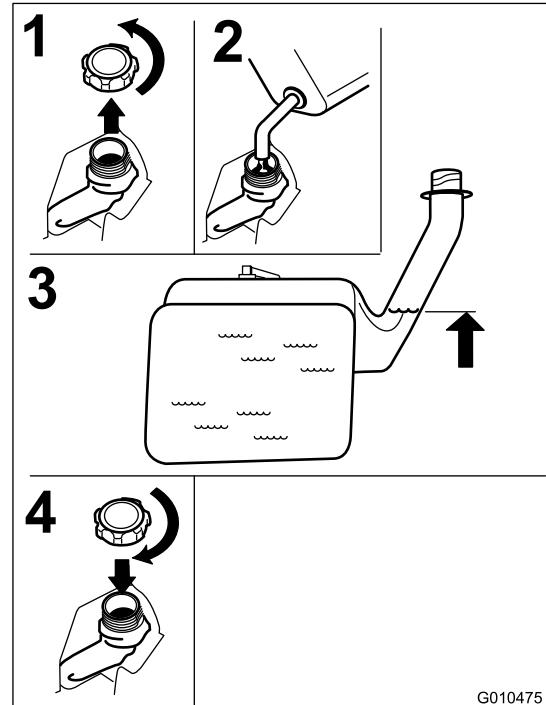

Figure 12
2. Slowly add regular, unleaded gasoline until the fuel reaches the base of the filler neck Figure 12.